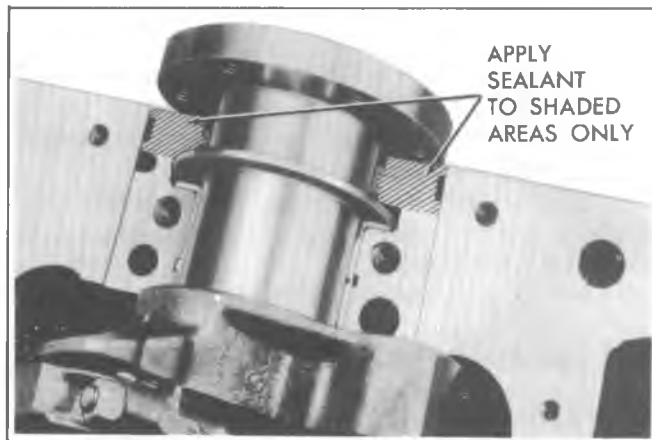

Fig. 6A5-58--Sealing Bearing Cap
5. Apply a thin coat of brush-on type oil sealing compound to block mating surface and corresponding surface of cap only (fig. 6A5-58). Do not allow sealant on crankshaft or seal.